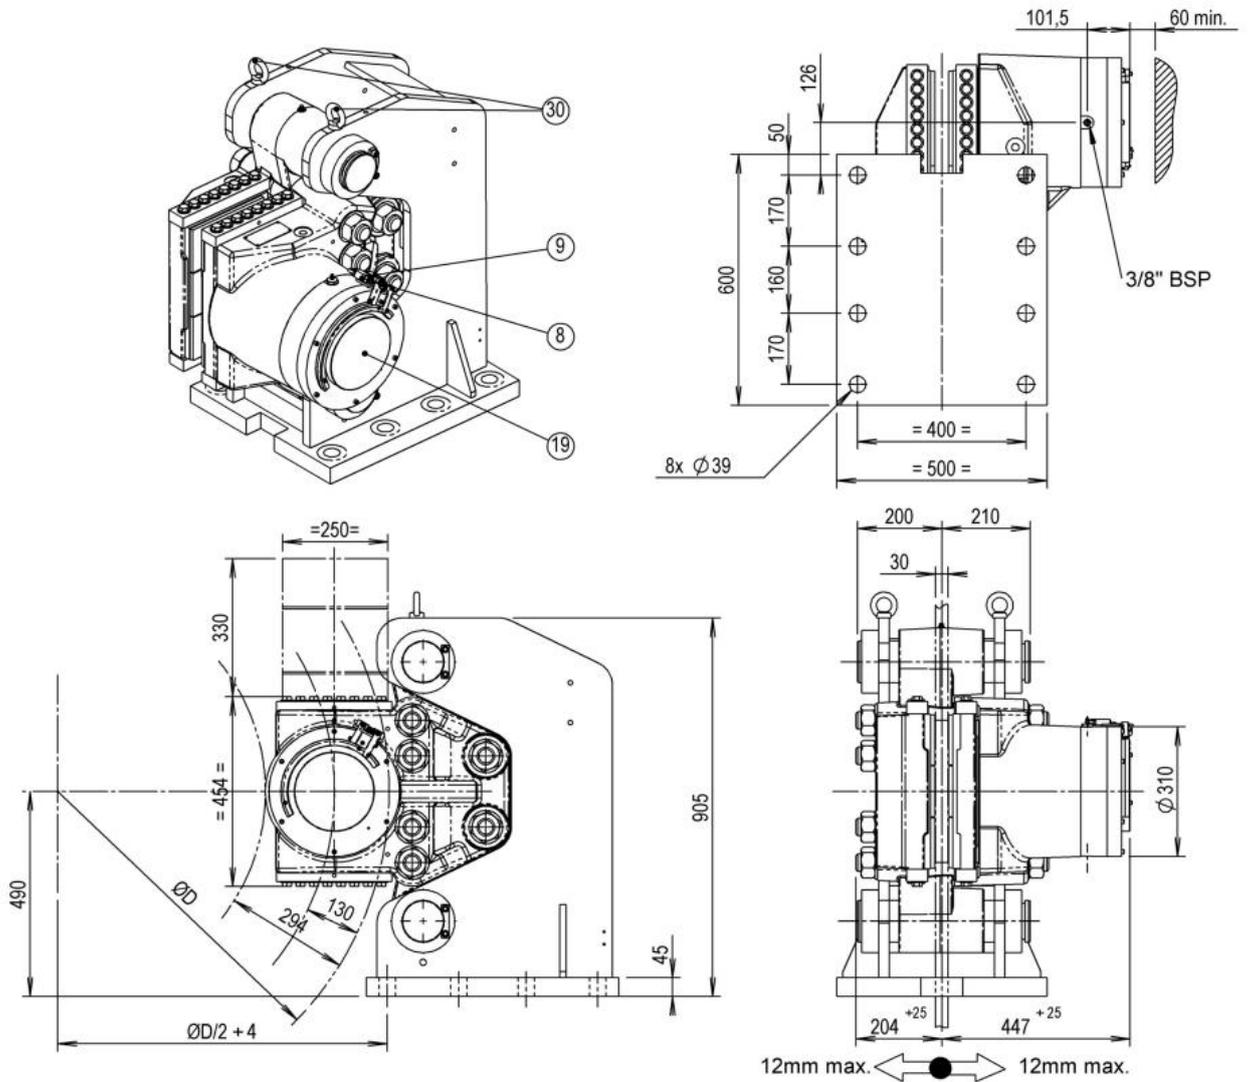
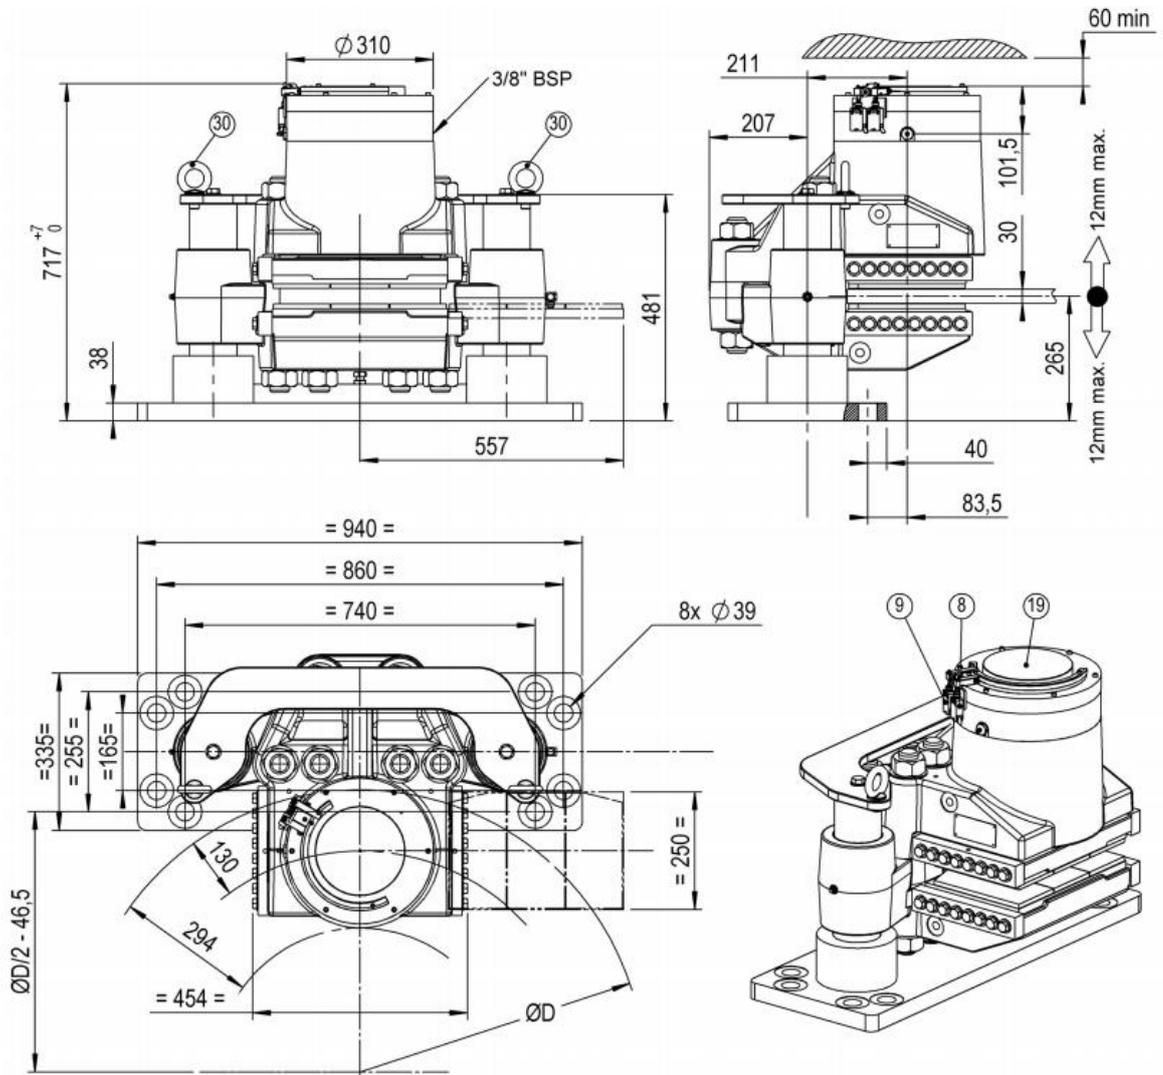

Fig. 2.1
Fig. 2.2
Put the assembly in position on the disc, raising it with two lifting eyes Fig. 2.1 and Fig. 2.2.
1. Brake HS 215 FHM-560 R-V Check the disc position 265 +/-12 mm Fig. 2.2. and that the disc is parallel // 0,3 to the brake pad use the adjustment screw between the casing and the bottom plate. Check that the support balance in relation to the disc is less than 0,2mm. Check that the disc is fully between the pads.